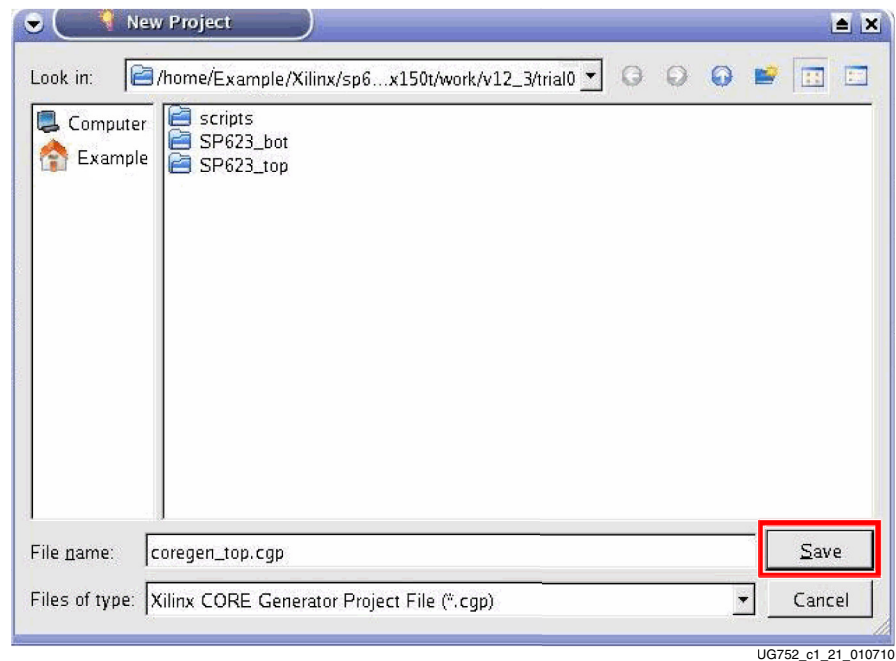

Figure 1-18: Save New Project
5. Name the project `coregen_top.cgp` and click **Save** (Figure 1-18). Note that for the "SP623\_bot" design, the project will be named `coregen_bot.cgp`.